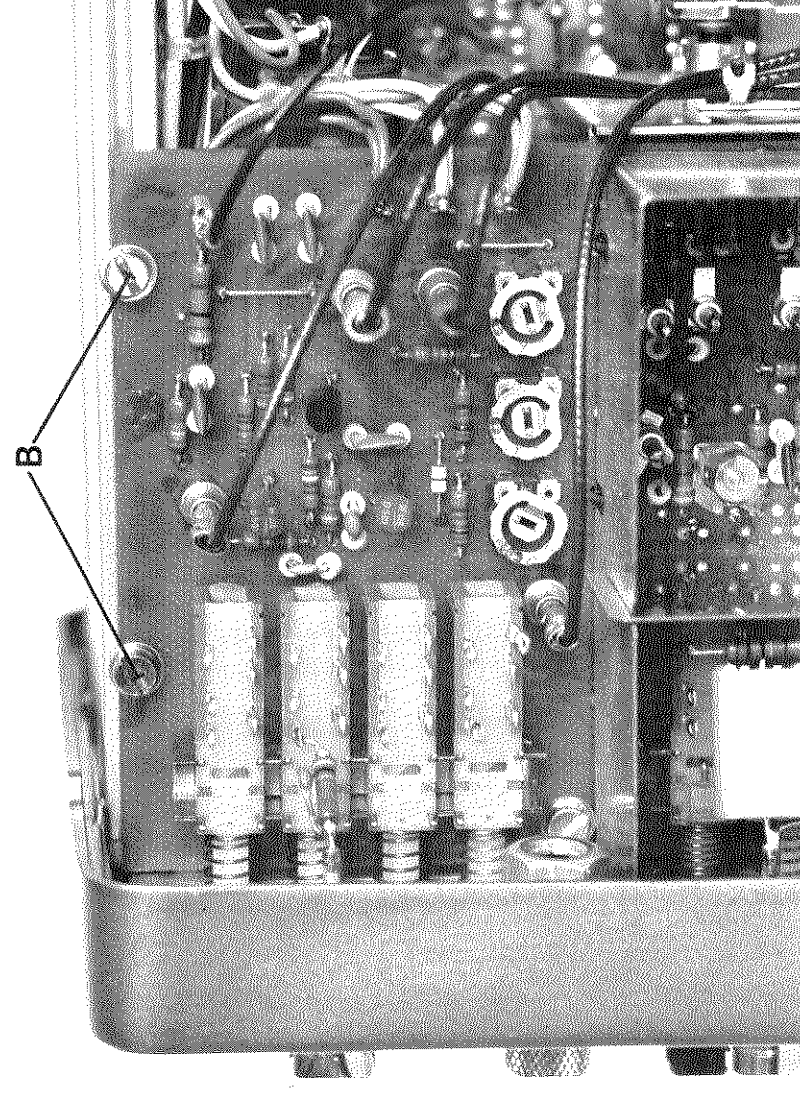

Fig. 3.22. Removing the front assembly (screws B)
- Remove the two screws B that hold the attenuator to the frame bar (Fig. 3.22).